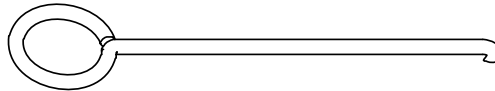

Figure 24
2. Locate the Cut Stick Puller provided with the machine. The cut stick puller has a finger hold and hook (Figure 24).